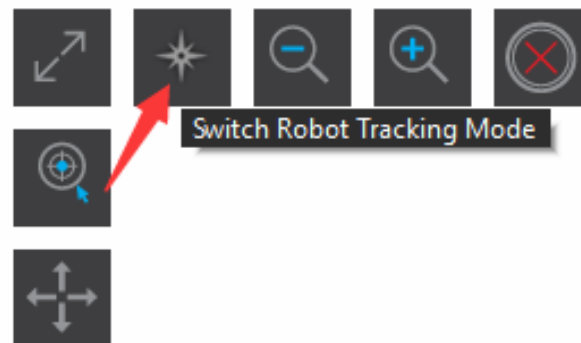

Figure 2.3.1 View Mode Switch
3. scroll up the mouse wheel to zoom in and zoom out (User can also click the magnifying glass icon to zoom in or zoom out, as in Figure 2.3.1);
4. click the icons in the major work area, as in Figure 2.3.1.